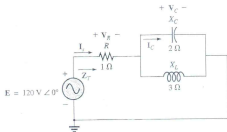

Fig. 1
- b) Determine the total impedance (Z_T), source current (I_s), voltages (V_R , V_C) and current across the capacitor (I_C) in the given R-L-C circuit in Fig. 1. 13